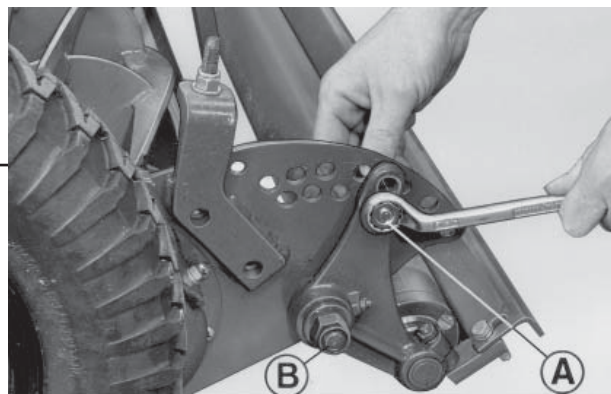

Fig 25
(Fig. 25). The machine is supplied to give a medium cut. To alter the height of cut remove the bolts (A) which secure the rear roll carriages and move the carriages up or down as required. Replace and securely tighten the bolts.